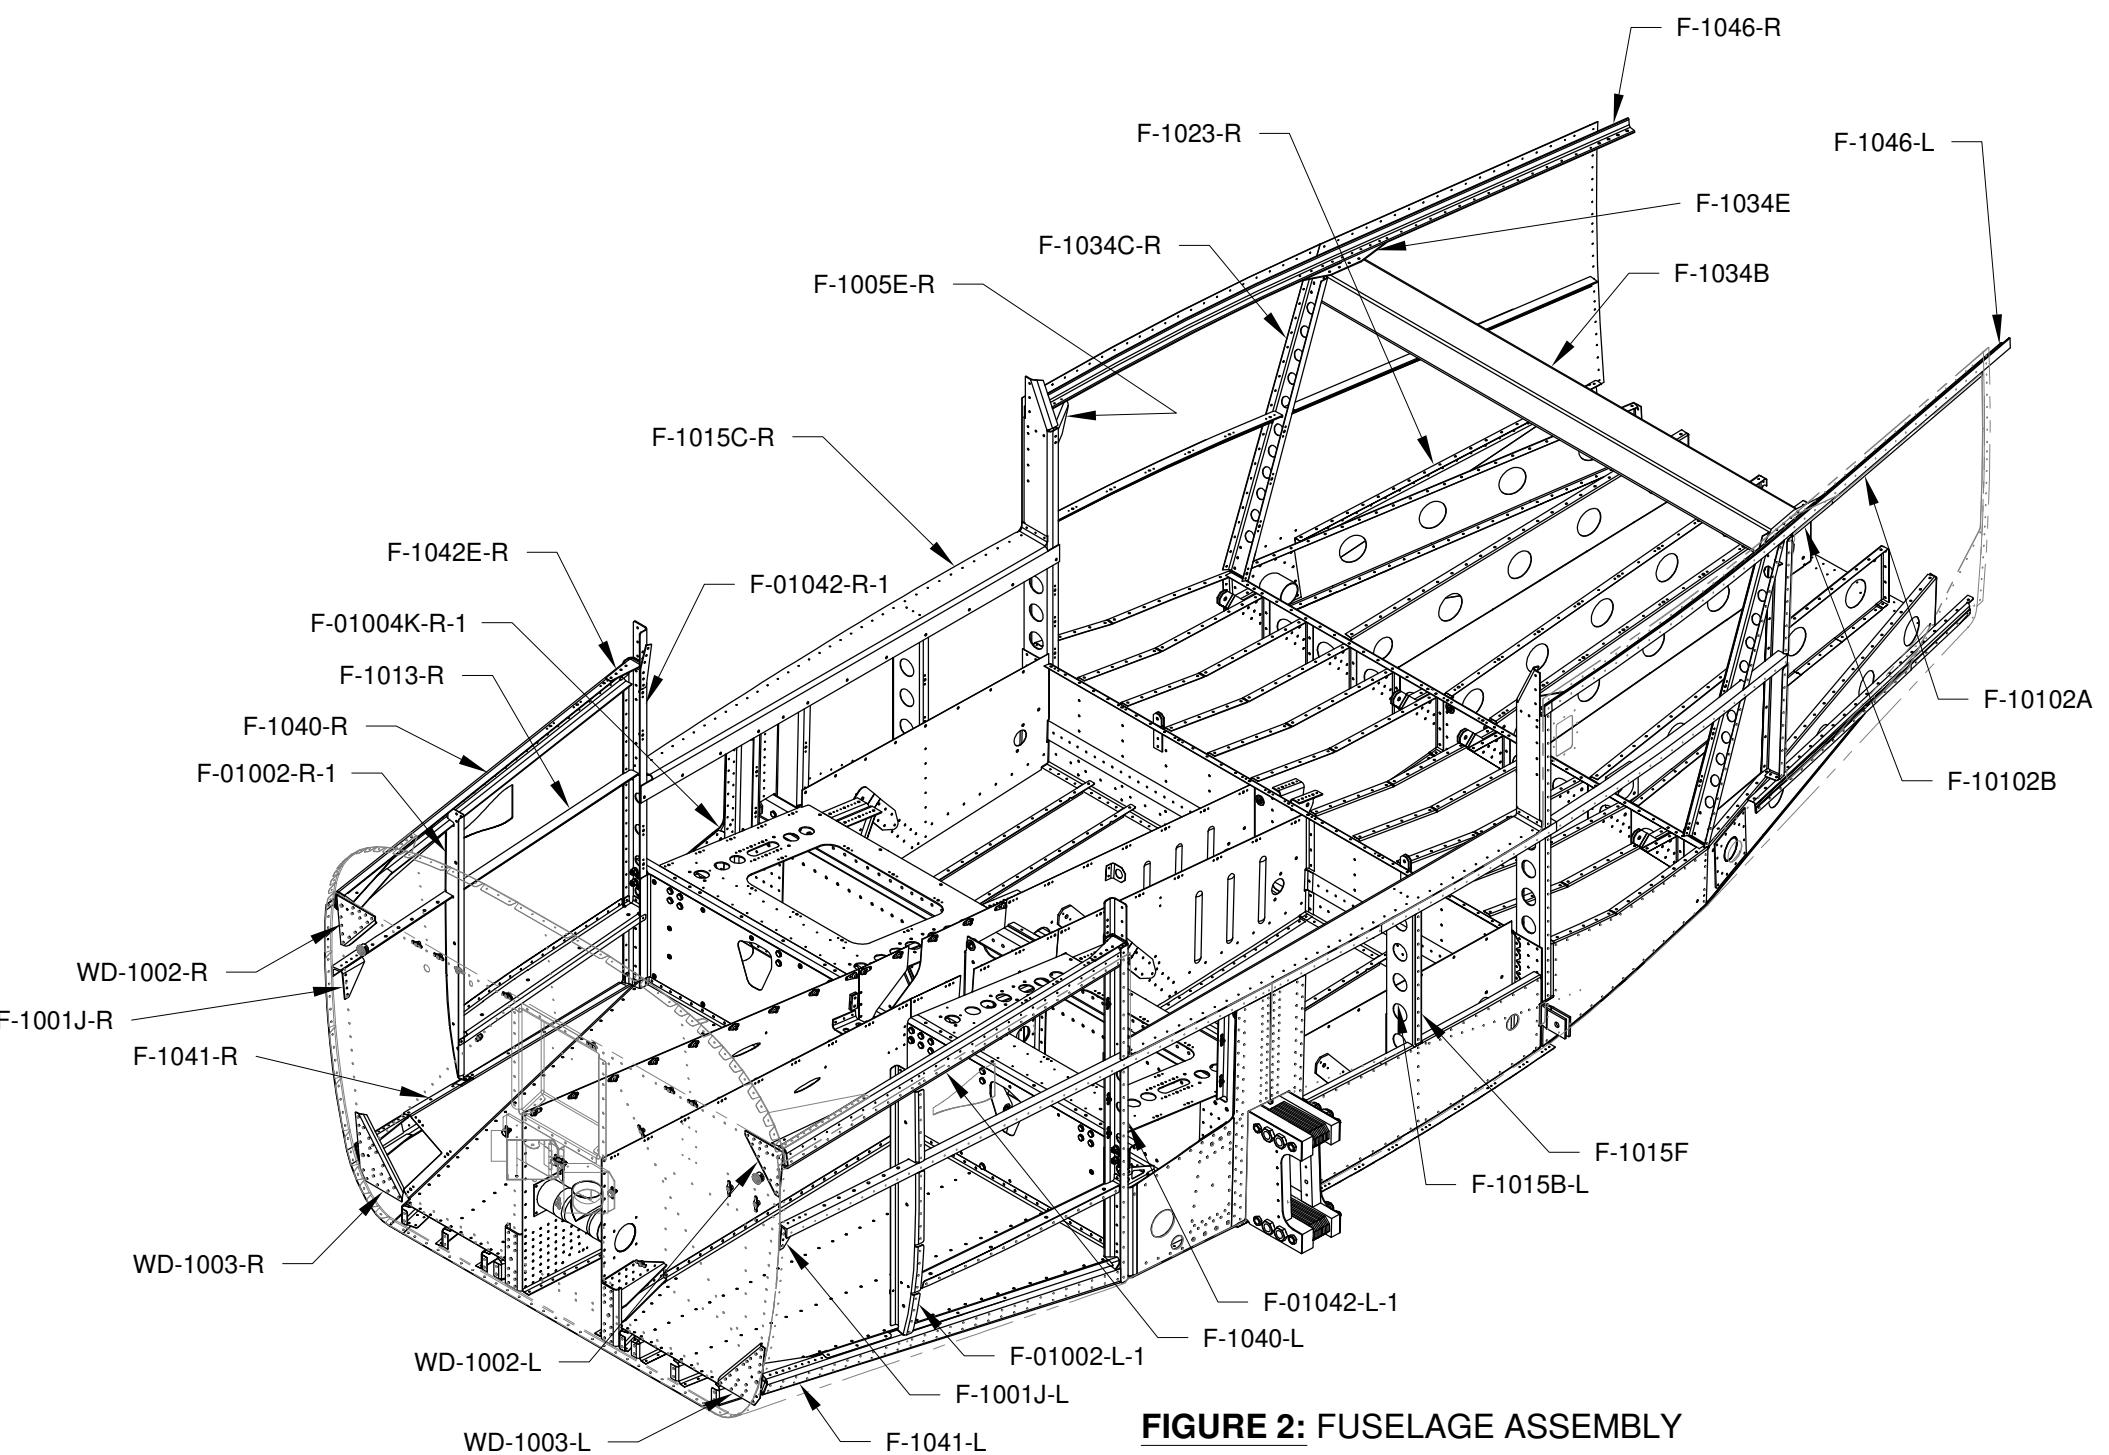

FIGURE 2: FUSELAGE ASSEMBLY
Step 8: Rivet the lower tab on the F-01002-L-1 & -R-1 Fwd Fuselage Bulkheads to the upper flange of the F-1041 Lwr Fuse Channels. Rivet callouts are on Page 29-12, Figure 2.
Step 9: Rivet the F-1023-L Baggage Floor Angle and the F-10100A and F-10101 Baggage Door Shims to the F-1070-L Mid Side Skin per the rivet callouts on Page 29-8, Figure 2 (do not rivet the seven aft most holes marked **do not rivet**). Rivet the F-1023-R Baggage Floor Angle to the F-1070-R Mid Side Skin per the callouts on Page 29-8, Figure 3. Back riveting on a plate works well for this step.
Step 1: Start by riveting the double row of rivets on either side of the joint between the F-01069-L-1 & -R-1 Fwd Side Skins and the F-1070 Mid Side Skins. Rivet callouts are in Figure 1, Figure 2 and Page 29-18, Figure 1.
Rivet the F-1070-R Mid Side Skins to the fuselage assembly understructure using the callouts in Figure 1 and Figure 2 (**Only rivet the locations that have callouts**).